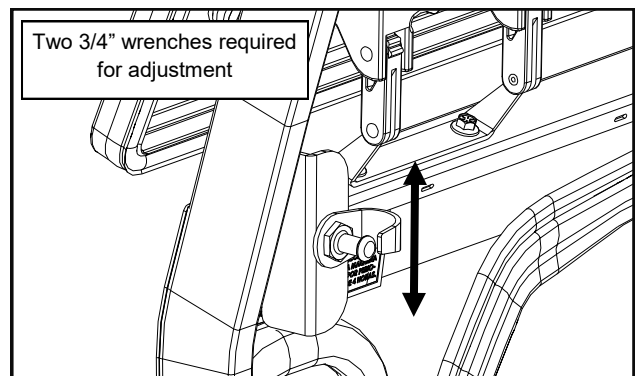

Fig. 20.2a (door striker pin adjustment)
- Adjust the striker pin on the sideframe vertically - See fig. 20.2a